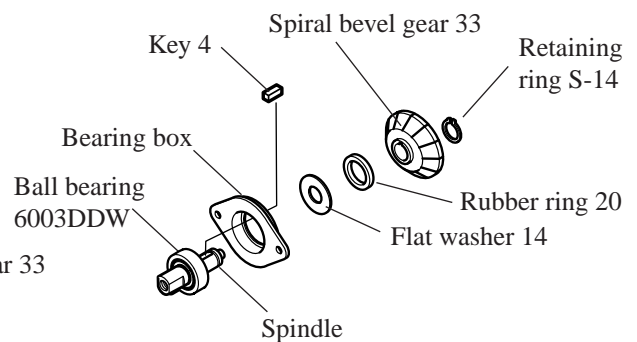

Fig. 7
- 3) Take off retaining ring S-14. Then, spiral bevel gear 33, rubber ring 20, flat washer 14 and key 4 can be separated from spindle. And spindle can be separated from bearing box as illustrated in Fig. 7.